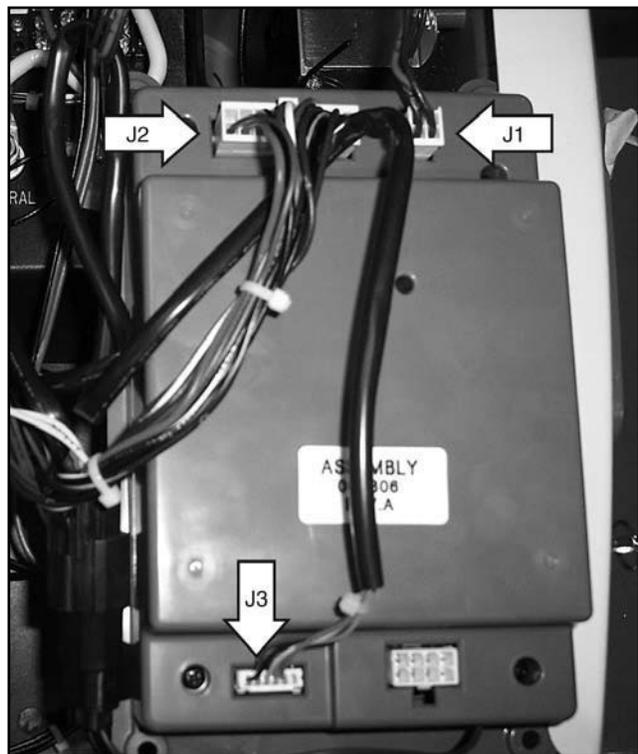

Figure 4.
- c. Remove stepper motor wiring harness at the J3 port. See Figure 4.